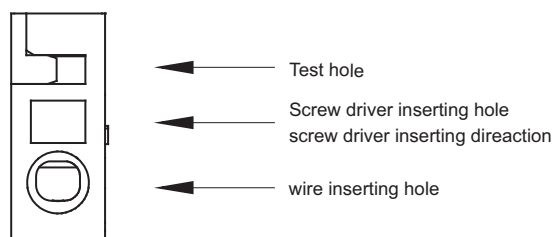

Figure 3
- * The insertion position of the wire and the screwdriver and the insertion direction of the screwdriver are as shown in Figure 3.